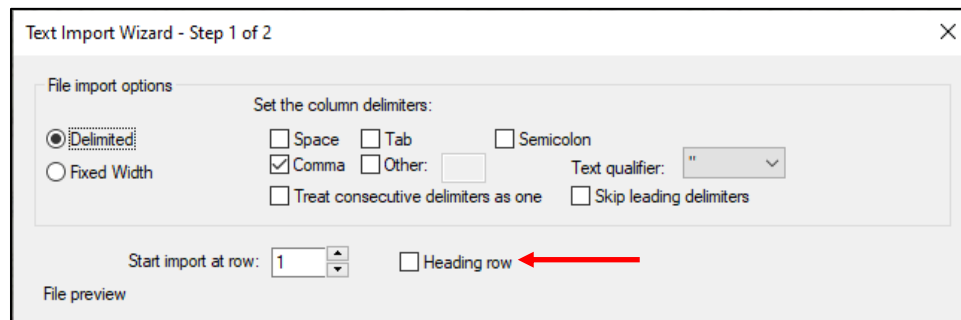

Figure 3 The top of the *Text Import Wizard* dialog
5. Select “recharge.csv” and click **Open** to exit the *Open* dialog and bring up *Step 1 of 2* of the *Text Import Wizard* dialog (top shown in Figure 3).
This wizard is used to import text data into a GMS project. Note that if the text file being imported has a heading row, the *Heading row* box must be checked for the data to be properly imported (red arrow in Figure 3). In this example, there is not a heading row so the box should not be checked here.